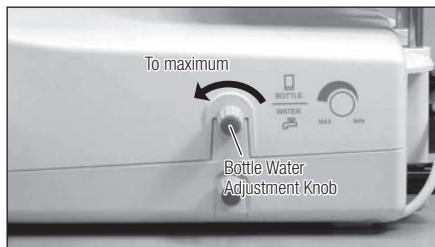

Fig. 40
- 4) Turn the Bottle Water Adjustment Knob to maximum. (Fig. 40)